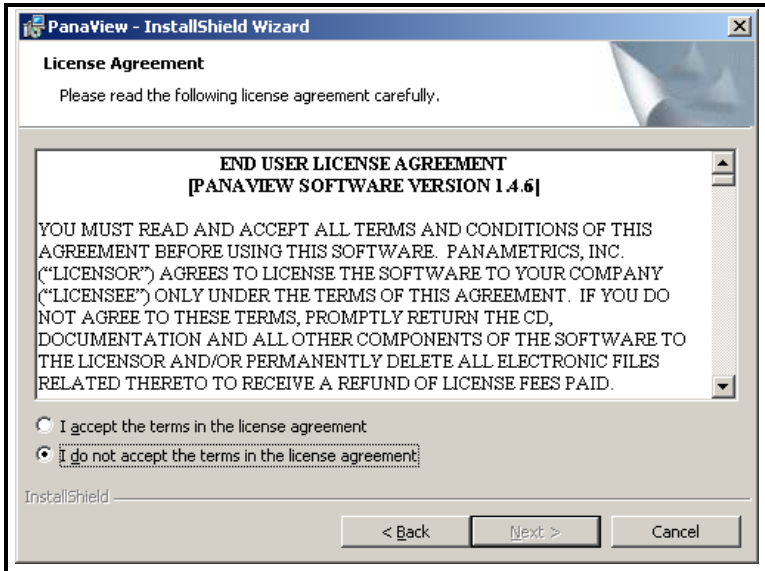

Figure 2-4: End User Licence Agreement
- Next, the *End User Licence Agreement* shown in Figure 2-4 below appears. Click the radio button for “*I accept the terms in the licence agreement,*” and click on the [Next] button to continue.